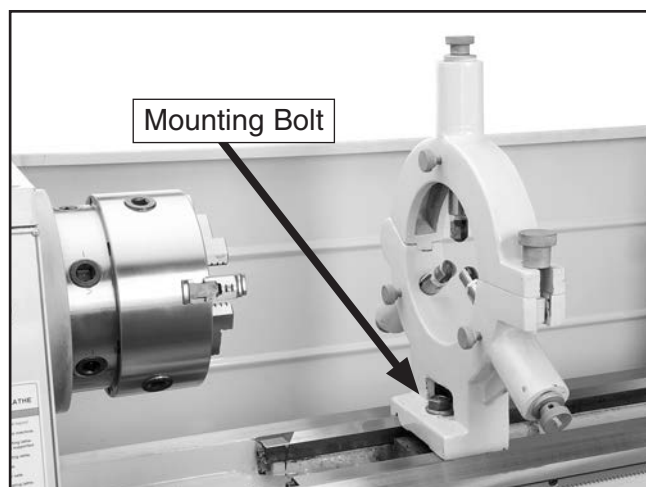

Figure 31. Steady rest in place.
1. Secure the steady rest to the bedway from below with the locking plate, then snug the mounting bolt (**Figure 31**).